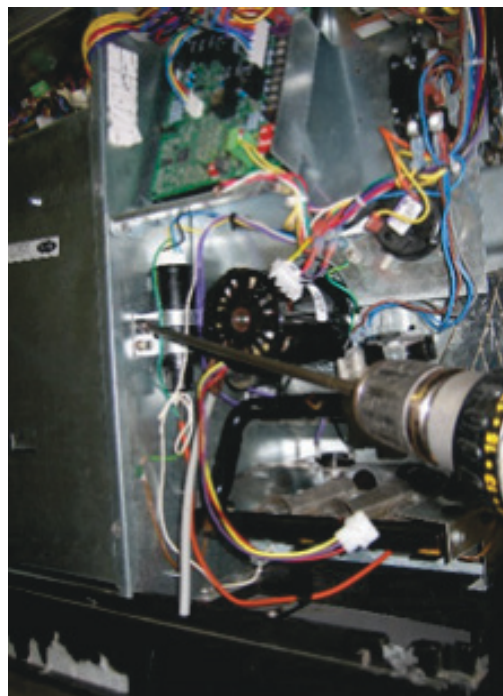

Fig. 31 – Removing Mounting Screw from Gas Manifold ^{A210076}
9. For all units remove mounting screw from gas manifold and pull Burner Assembly forward to clear Heat Shield (See Fig. 31).